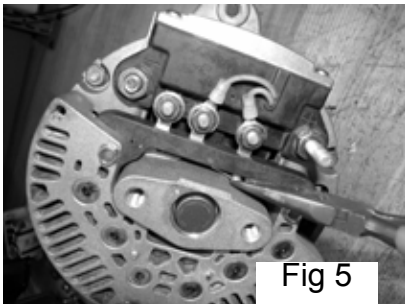

Fig 5
Step 6: Pull brush retaining pin. See Fig 5